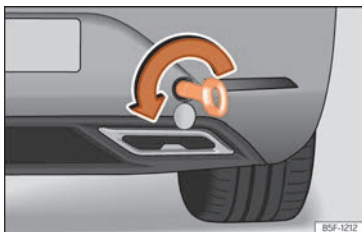

Fig. 54 On the right side of the rear bumper: towline anchorage in position.
- Screw the towline anchorage into the housing by turning it as far as it will go **anticlockwise** » **Fig. 54** » **!** Use a suitable object that can completely and securely tighten the towing eye in its housing.